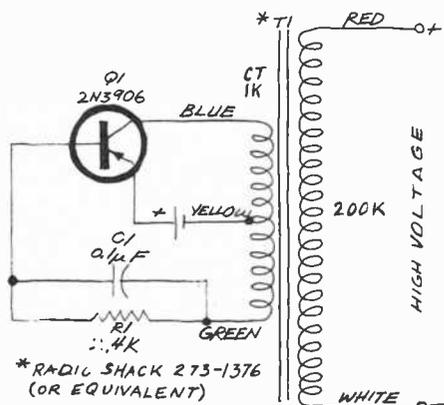
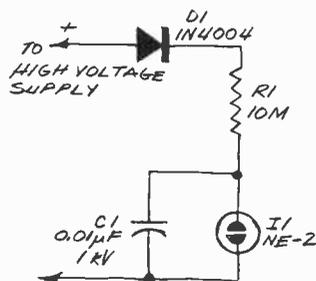
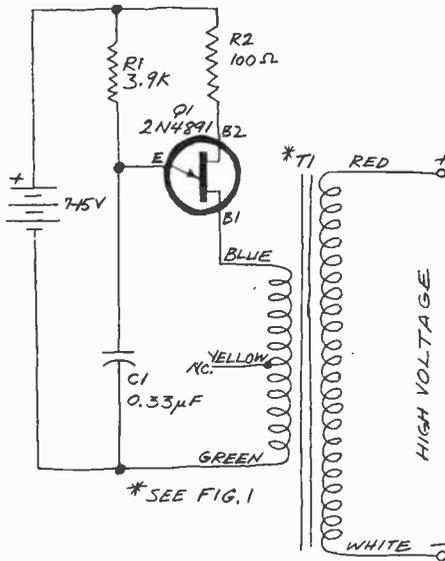

Fig. 1. Simple dc/dc converter.
Fig. 2. Neon relaxation oscillator.
Fig. 3. UJT dc/dc converter.
**Dc-to-dc Converters.** Let's examine two very simple dc-to-dc converters that can be used in low-current, high-voltage applications. The first circuit, shown in Fig. 1, is ultra-simple and illustrates the miniaturization potential of a solid-state high-voltage power supply.
The current output of this circuit is minuscule, but it can easily ionize a neon lamp or power a semiconductor laser power supply. It can also operate the simple neon-lamp relaxation oscillator shown in Fig. 2. This circuit will flash about once a second with the component values shown. In operation,  $C1$  charges through  $R1$  until the breakdown voltage of  $I1$  is reached. When  $I1$  fires,  $C1$  discharges through  $I1$ , and the cycle repeats. Diode  $D1$  keeps  $C1$  from discharging back through the transformer winding.
The current drain of the Fig. 1 circuit connected to the neon flasher in Fig. 2 is fairly low. The circuit draws 12.3 mA from a fresh D cell at 1.5 volts, 8.3 mA from a fully charged 1.2-volt nickel-cadmium cell, and only 6.8 mA from a 1-volt source.
The simple circuit in Fig. 1 is typical of most dc-to-dc converters in that the transformer plays an active role in both the oscillator and HV sections of the circuit. Dc-to-dc converters can also be designed so that the transformer functions strictly as a voltage converter. One possibility is shown in Fig. 3, where a unijunction transistor oscillator is connected to a high-turns-ratio input transformer like the one used in Fig. 1. The oscillator produces a series of fast risetime pulses each time  $C1$  discharges through the emitter-to-B1 junction of  $Q1$ . The pulses are passed through the low-impedance winding of the transformer
Due to the presence of the unijunction transistor, the circuit in Fig. 3 requires a higher operating voltage (7 to 15 volts) than the circuit in Fig. 1. But at 10 volts the circuit will operate the neon flasher in Fig. 2 with a current drain of only 0.5 mA. This corresponds to a total power consumption of about 5 mW versus about 18 mW for the previous circuit.